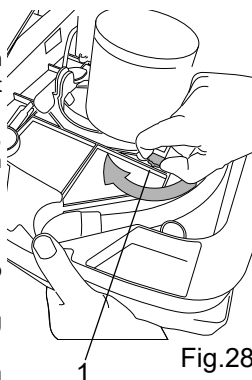

Fig.28
The driving force produced by the device can be varied by turning the relative knob (fig. 28, ref. 1), which presents two sectors of different colour, one green and the other yellow:
- Elevate the brush/motor by taking up the weight with one hand, and with the other hand, turn the knob (fig. 28, ref. 1) to the position desired.